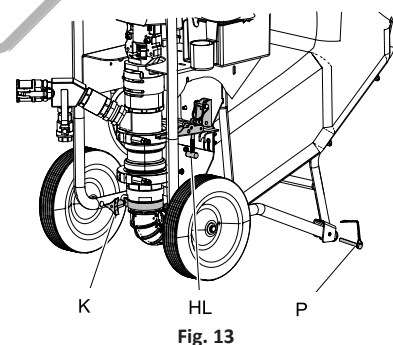
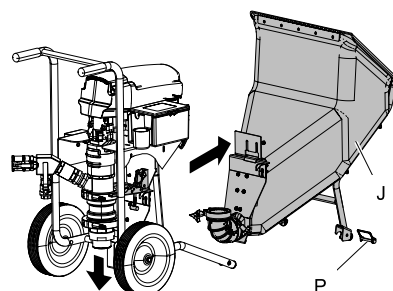

Fig. 13
Fig. 14
2. Rotate the knob (K) counterclockwise to loosen the clamp between the hopper elbow and the lower pump. (Fig. 13)
3. Remove the locking pin and pull down the hopper latch (HL) on the hopper plate.
4. Remove the two hopper pins (P) from the front legs of the cart.
5. Lift up on the handle and pull the hopper (J) away from the sprayer. (Fig. 14)